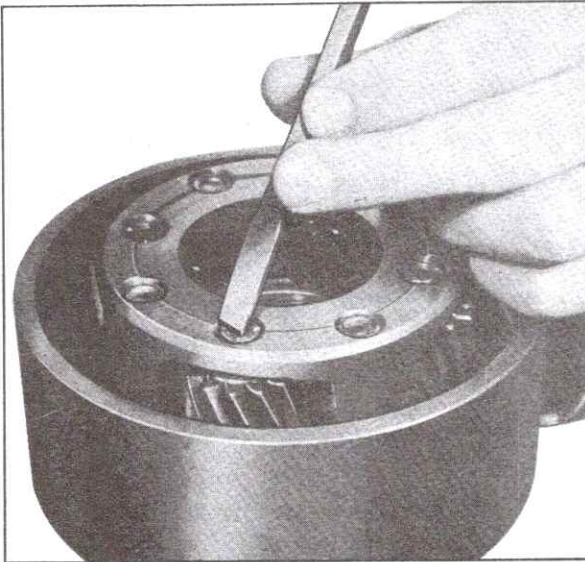

Fig. 7-82 Staking Pinion Pin
9. Using a punch in bench vise for an anvil, stake opposite end of pinion pin in three places with a blunt radius chisel, Fig. 7-82.